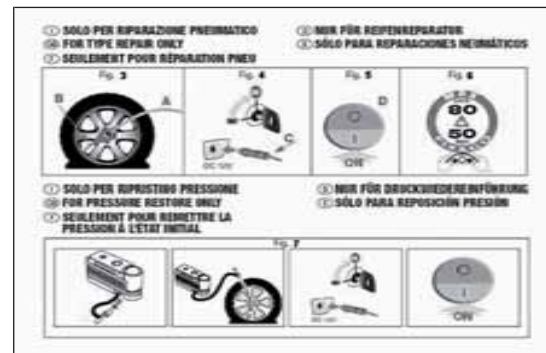

fig. 151
- ☐ instruction booklet fig. 151, to be used for prompt and correct use of the quick repair kit and then to be handed to the personnel charged with handling the tyre treated with the tyre repair kit;